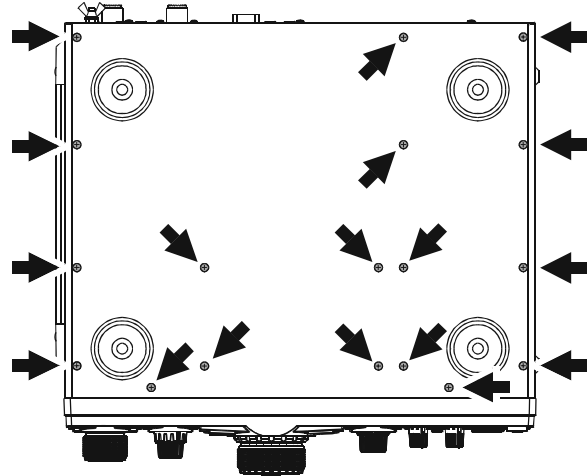

FIGURE 1
3. Referring to Figure 1, remove the 18 screws that attach the bottom case, then remove the bottom case.